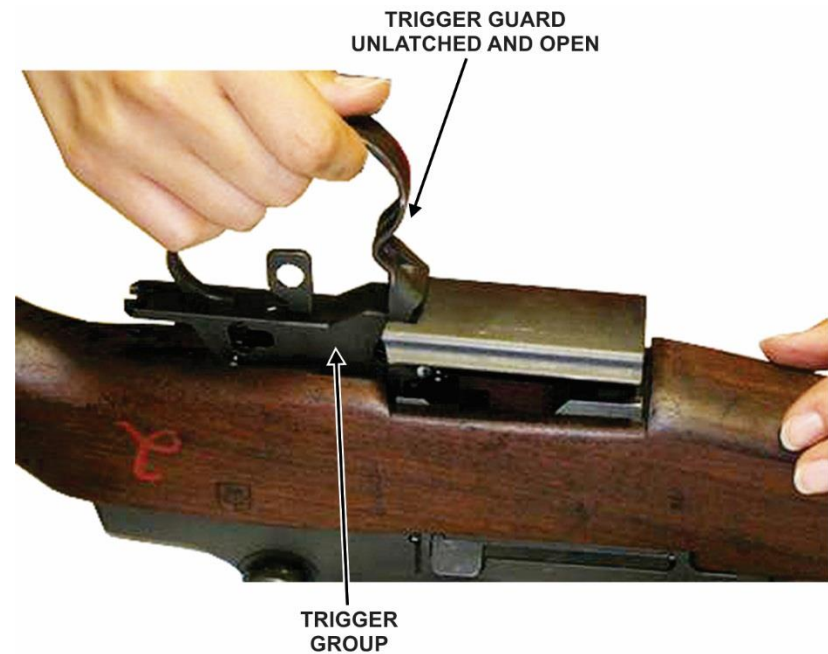

Figure 54. Insertion of trigger group
- 2) Unlatch and open the trigger guard. Keeping the trigger group level, insert it straight down into the receiver, making sure that the locking lugs on the trigger guard enter their recesses in the receiver (fig 54).